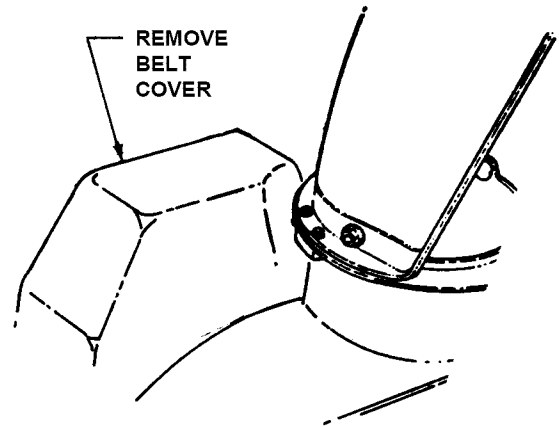

FIGURE 4.2
2. Remove belt cover. See Figure 4.2.
1. Remove belt cover. See Figure 4.2.